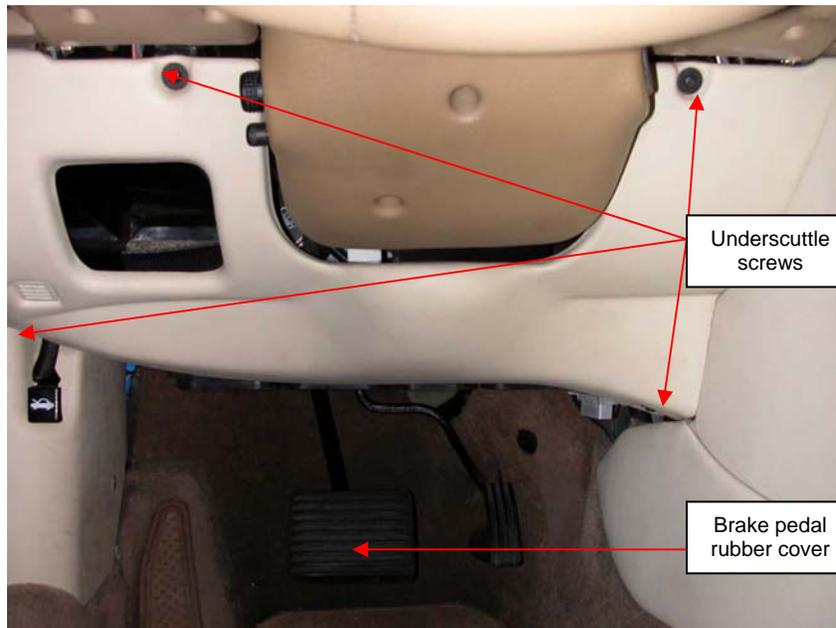

Fig. 1
1. In the passenger-compartment footwell, remove the brake pedal rubber cover. This provides clearance during removal of the brake/throttle pedal assembly (see Step 18 below). Remove the four screws holding the underscuttle pad to the dashboard (Fig. 1). Carefully pull down on the left side of the pad and then pull left. Be careful not to let the underscuttle get hung up on the dashboard lighting rheostat or steering-column adjuster switch located on the left side of the steering column.